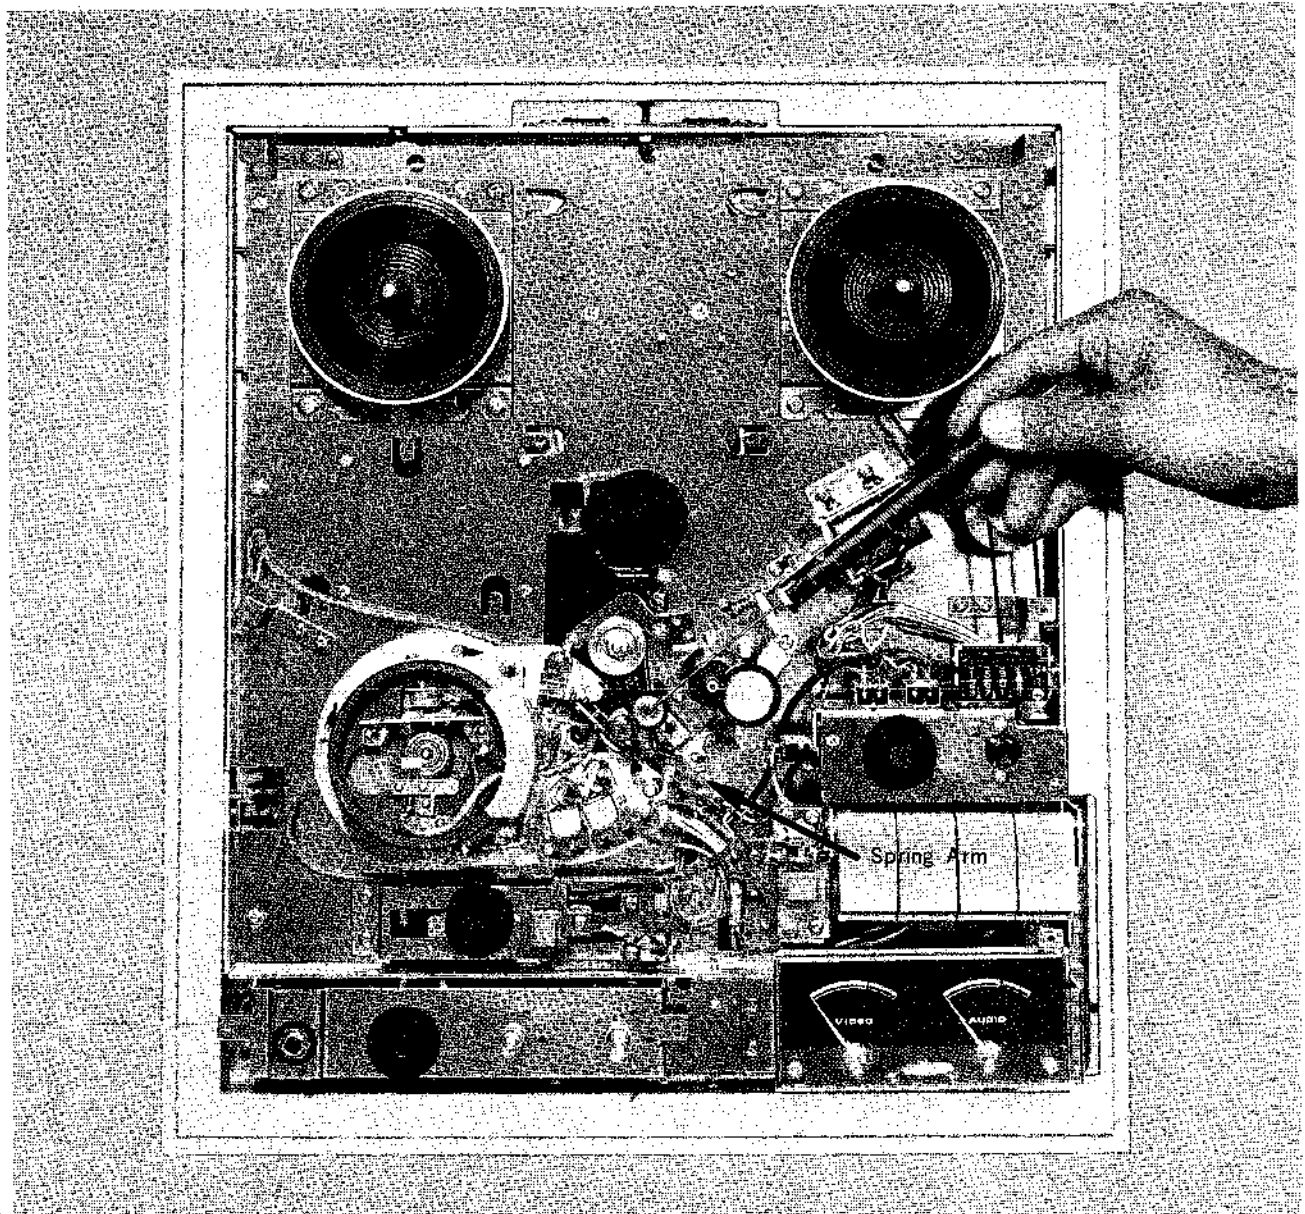

Fig. 10 Sub Pinch Roller Pressure Measurement
- (b) As shown in Fig. 10, connect a 0 to 50 gr Spring Gauge to the Sub Pinch Roller Shaft and measure the Sub Pinch Roller Pressure. Standard pressure is 30 gr (± 5 gr).
- (c) At Playback Mode, adjust pressure by changing angle of Spring Arm as shown in Fig. 10.